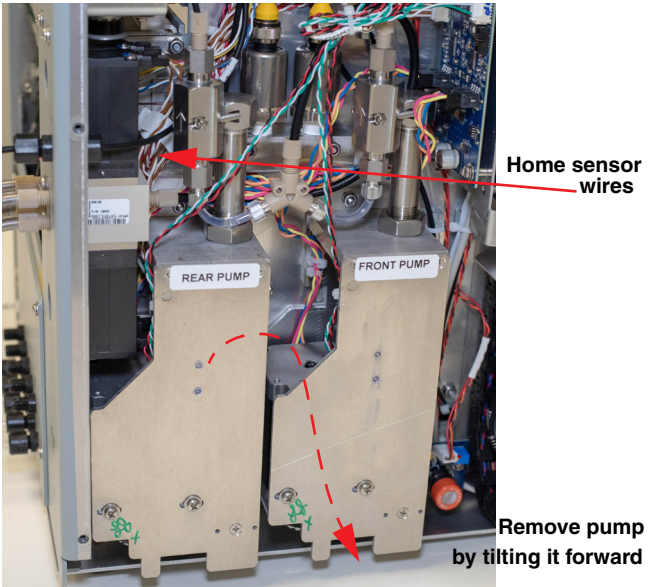

Figure 3: NextGen Pump removal
7. Tilt the pump assembly out and lift up to remove, taking care not to damage the wires attached to the pump home sensor (Figure 3).